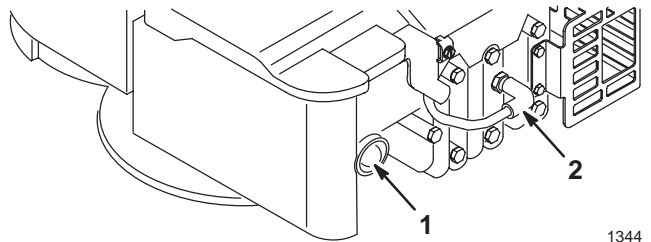

Figure 10
1. Push spark plug wire onto spark plug (Fig. 10).
2. Push primer three (3) times (Fig. 10). **Wait about two (2) seconds between each push.**
1. Stop the engine and pull wire off spark plug (Fig. 10).